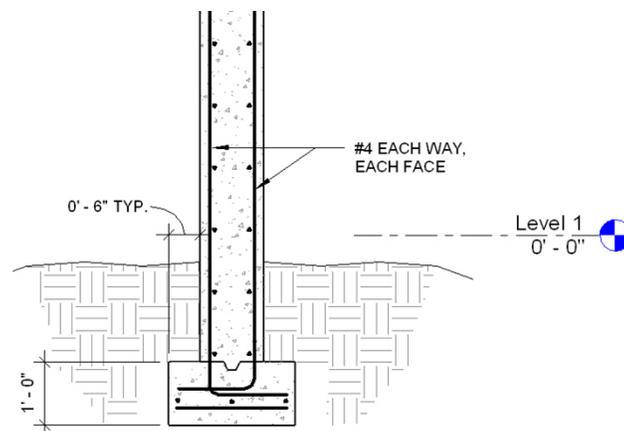

Figure 7–1
Wall footings for bearing and retaining are placed under walls and in Autodesk® Revit® Structure software are actually hosted by the walls. Once a footing is in place, you can change the size of the section and add reinforcement, as shown in Figure 7–1, to make it a foundation bearing system. With the advantages of having a true foundation in place, you can accurately tag and schedule the footings. When a footing size or footing type changes, the software reads and updates the information where ever it is needed.
- You can apply two types of continuous footing systems, as shown in Figure 7–2; *Bearing footings* with an equal distance on either side of the bearing wall and *Retaining footings* with one side offset to accommodate additional lateral loads and reinforcement.